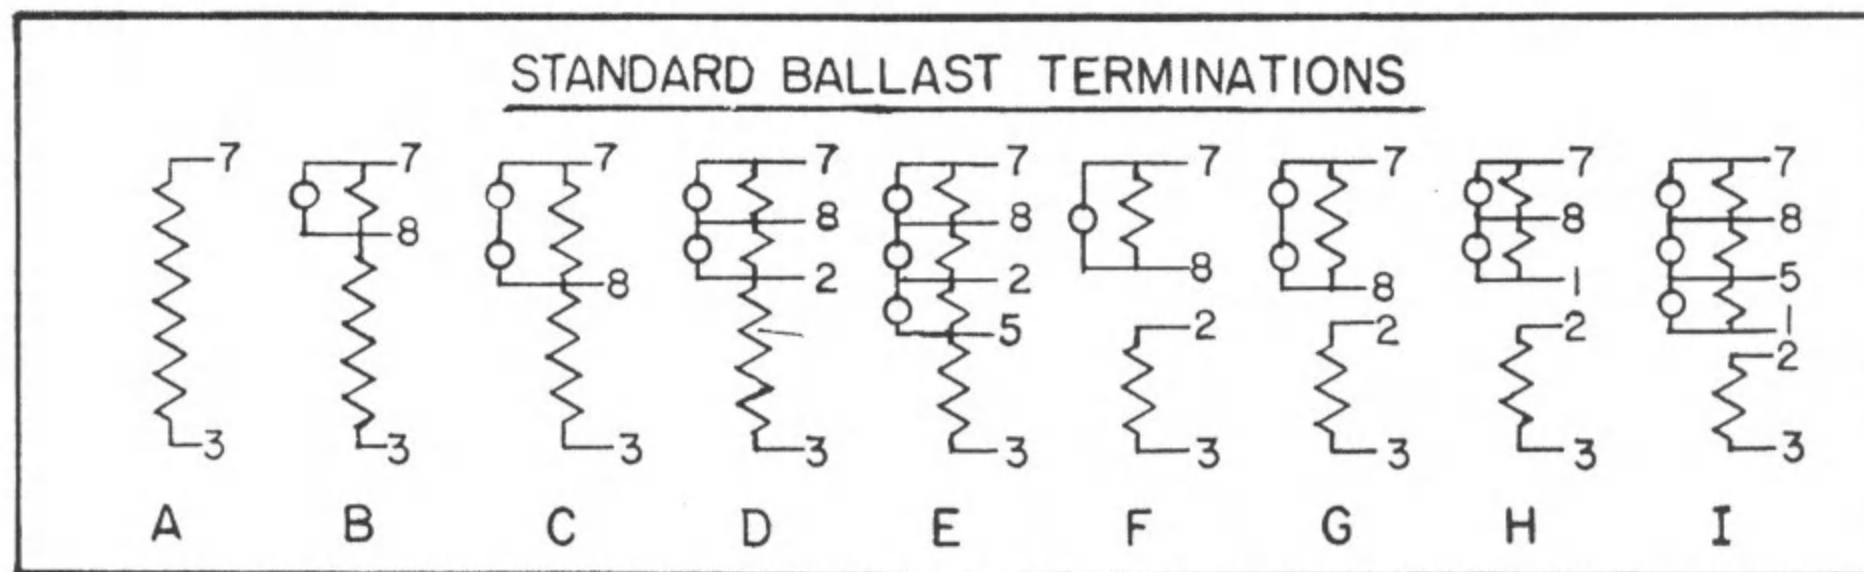

Fig. 6
3. Classify the ballast unit to be tested according to its EIA BASE WIRING. The push buttons then to be depressed (one at a time), will correspond with the numbers designated on the appropriate schematic in Fig. 6 on following page.
For example, Ballast type BK86A is an "A" type base wired unit. It is checked by referring to diagram "A" of Fig. 6, which reveals that button 3, then button 7 must be depressed. Neon lamp should glow as each of these 2 buttons is depressed. (Should the ballast incorporate a jumper (for example from pin 3 to pin 4 as for ballast designation BK86AJ), neon glow must also be obtained when button 4 is depressed.
5. Insert diode between pin jacks 2 and 3. Positive (cathode) side of diode connects to 3, negative (anode) side of diode to 2. Use adapter cable, if necessary. See Fig. 6 for common methods of diode polarity identification. (Note that diode can actually be connected between any socket pins 2 and 3 as long as proper polarity is observed.)